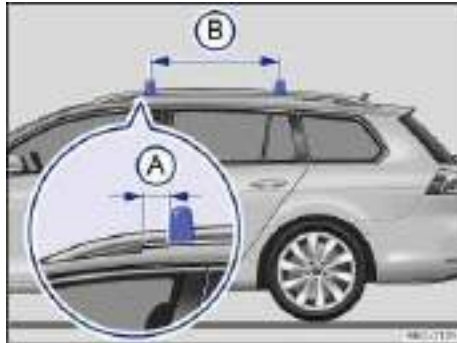

Fig. 102 Mounting the base carrier and roof rack.
The base carrier is mounted on the roof rails. The distance between the front base carrier crosspiece and the front foot of the roof rail ⇒ fig. 102 \(A\) must be at least **2 inches (5 cm)**. The distance between the base carrier bars \(B\) should be about **29.5 inches (75 cm)**.
- Secure the roof rack base carrier only at the attachment points shown in the illustration ⇒ fig. 102.